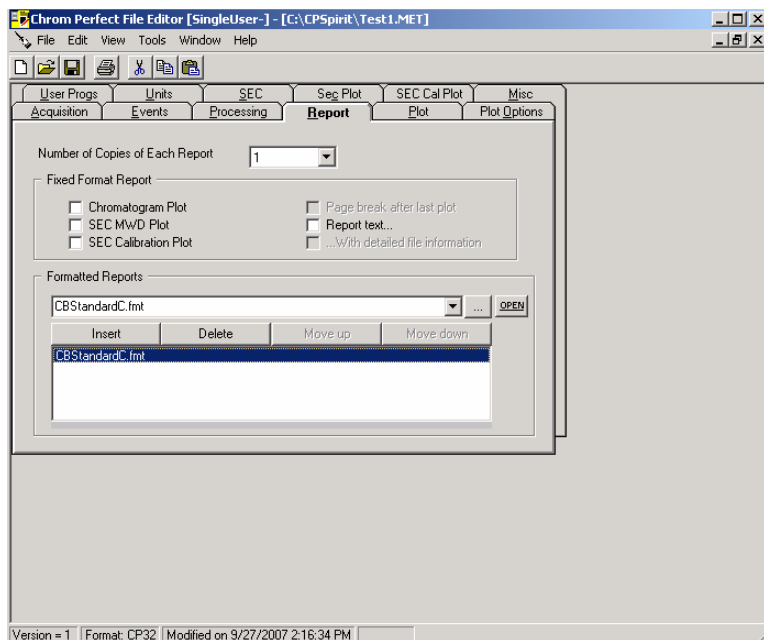

Figure A-33: Report Tab
3. In the file name inquiry window use browse key (...) to open method file **Test1.MET** that saved before. The method file is open as shown in Figure A-33.